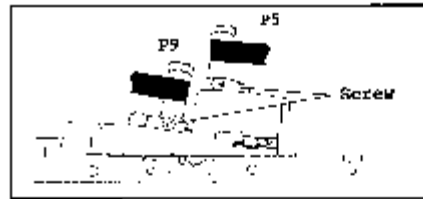

Fig. II-9
6-3 Adjustment at inlet side (Fig. II-9)
(Fig. II-9)
6-4 Adjustment at outlet side (Fig. II-9) (P9)
- (2) Loosen the screws of P9. (Fig. II-9)
- (3) Adjust the P9 to flatten the outlet side of waveform.
- (4) After the flattest waveform is obtained, tighten the screw. However,